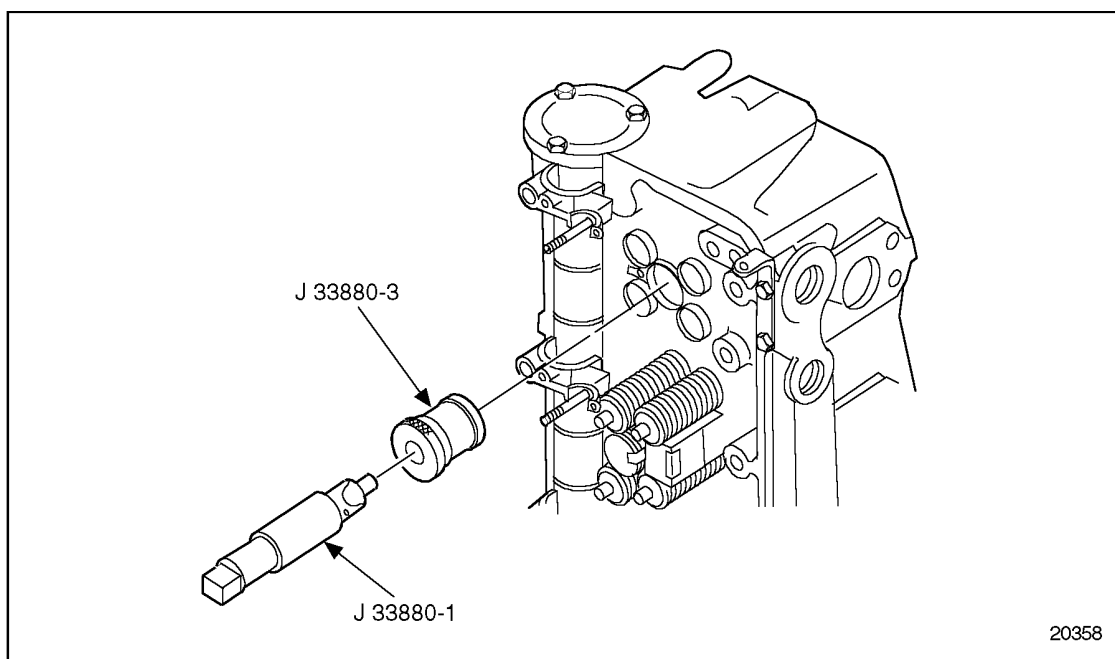

Figure 2-23 Reaming Injector Tube Seat
8. Place a few drops of cutting oil on the edges of the seat reamer tool, J 33880-1 part of J 33880, and gently place it in the pilot. See Figure 2-23.